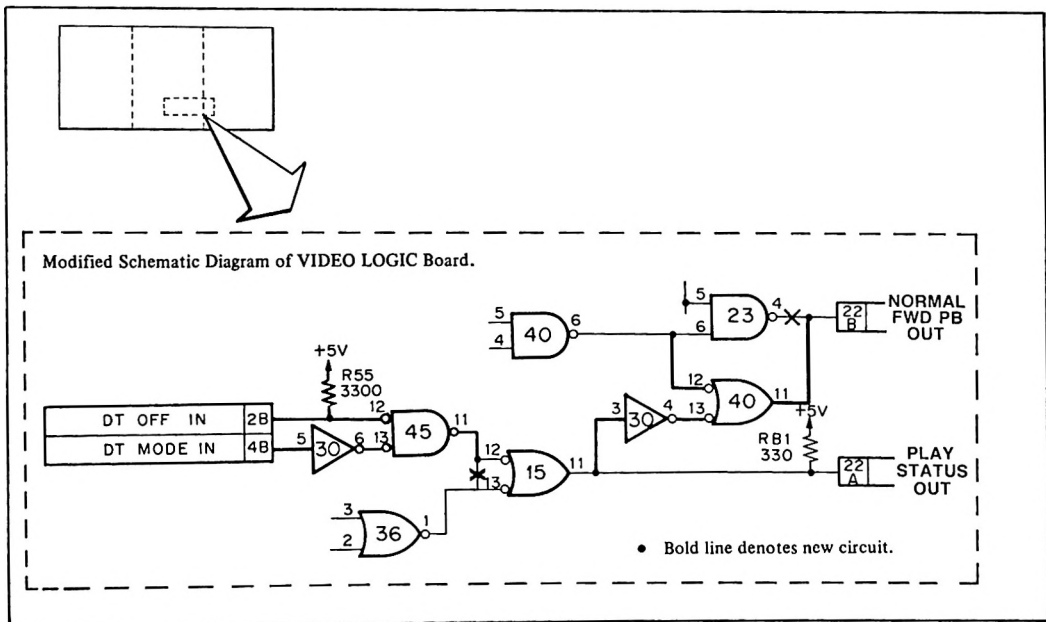

Figure 4
1. Carefully cut the trace at the locations listed below. Figure 4 shows the changes to the schematic. Figure 5 shows the changes to the board.